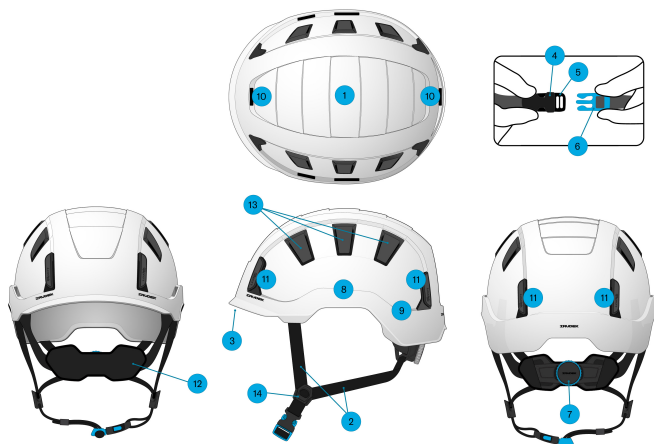

Fig. 1
- Before fitting, turn the adjustment system counterclockwise until it reaches its maximum size. Place the helmet on the head and adjust the size of the user's head by turning the adjustment system clockwise to tighten and counterclockwise to loosen. (Fig. 1).